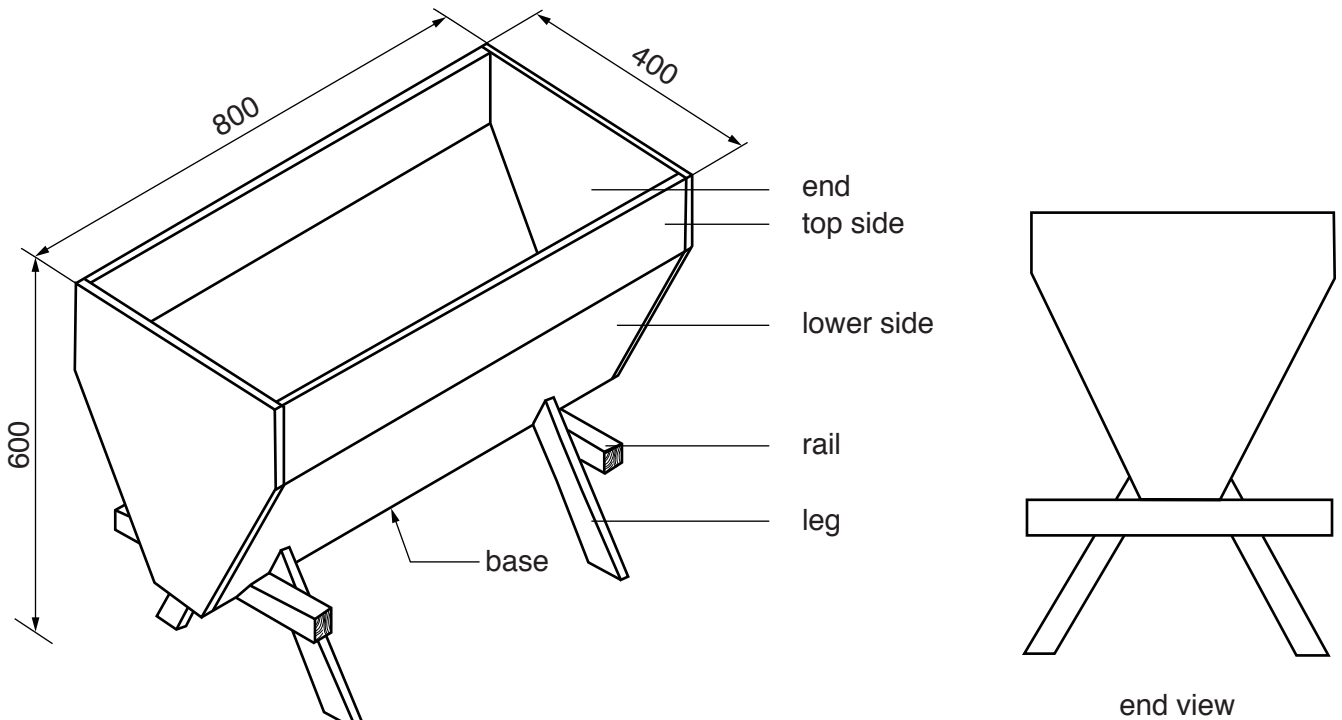

Fig. 9
- 12 Fig. 9 shows views of a planter in which flowers can be grown.